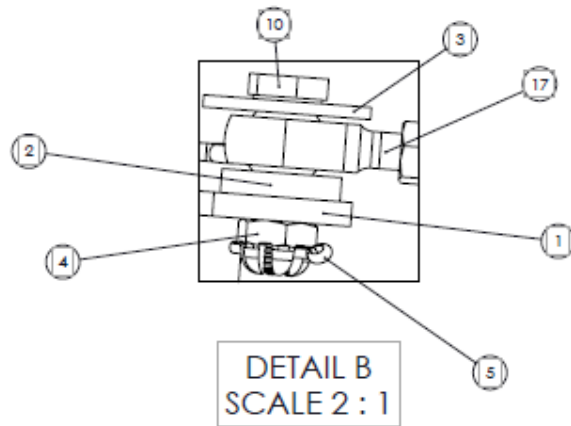

FIGURE 3-9 PUSH PULL TUBE ATTACHMENT AT SERVO ARM
22. Secure the push pull tube to the servo arm as shown in Figures 3-9. Refer to the Illustrated Part Catalog for fastener and spacer part numbers.
The AN310-3 castellated nut shown in Figures 3-9 and 3-10 must be preloaded (torqued with a calibrated wrench) to 20 to 25-inch pounds before the MS24665-134 cotter pin is inserted. Refer to Illustrated Parts Catalog drawings.